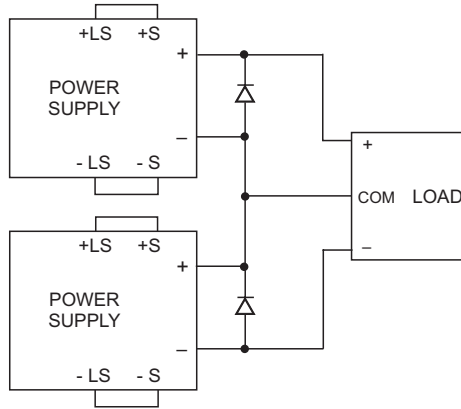

Fig. 4-14: Series connection for bipolar output
3.1 General: At this operation mode, two units are configured as a bipolar voltage/current source. Set the current limits of each power supply to the maximum that the load can handle without damage. It is recommended to connect diodes in parallel to each unit output to prevent reverse voltage during start-up condition or in case one of the units shuts down. Each diode should be rated to at least the power supply's output current. Refer to Fig. 4-14 for this operating mode.